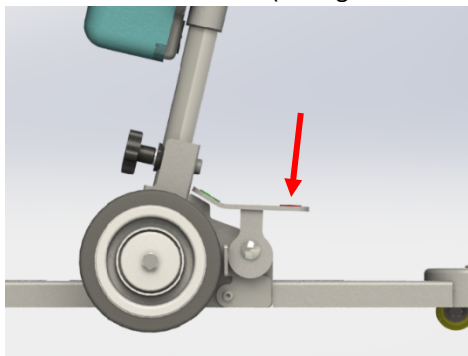

Figure 16
1. To activate the brakes, take your foot or hand and push down vertically on the red cycle on the brake lever, one brake lever at a time. (see figure 16 & 18)